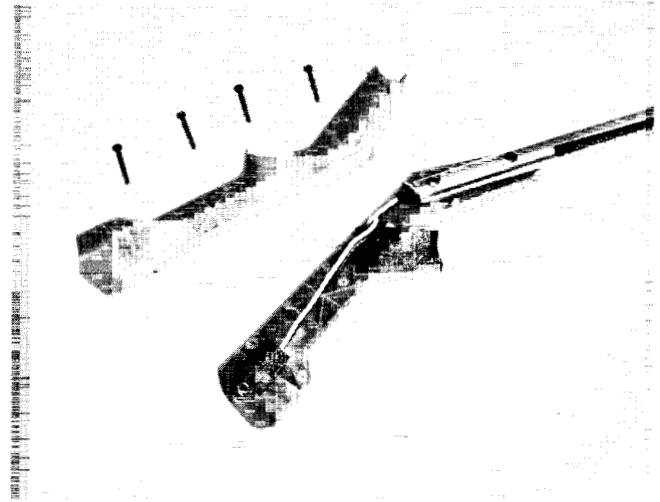

Figure 3.91
3.91 REPLACE SWITCH (fig. 3.91)